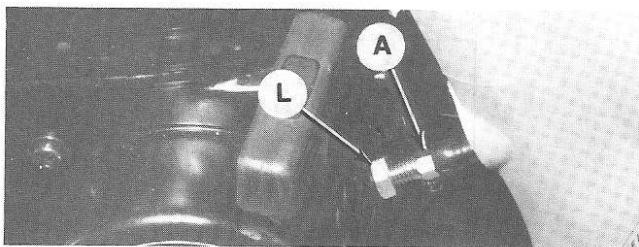
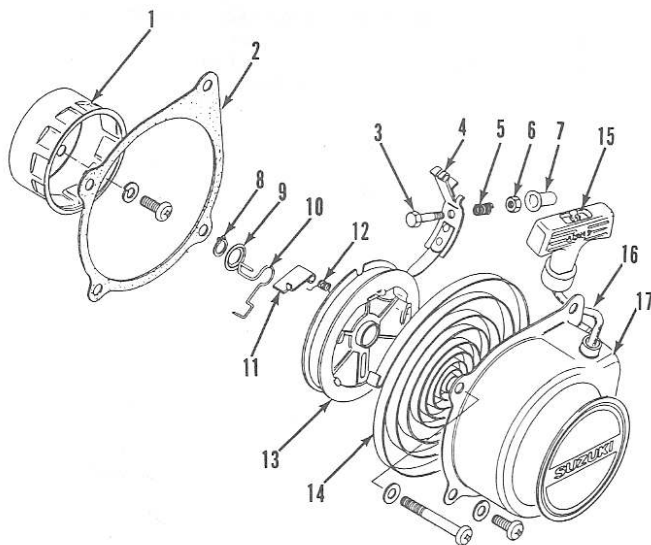
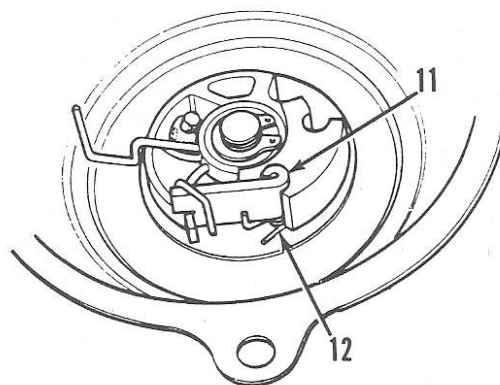

Fig. S1-8—Loosen locknut (L) and rotate adjuster (A) as outlined in text to adjust starter interlock.
Fig. S1-9—Exploded view of manual starter assembly used on both models.
Fig. S1-10—Ensure starter pawl (11) and return spring (12) are installed as shown. Parts are also shown in Fig. S1-9.
engagement until parking brake is applied. To adjust, first check and adjust brakes as outlined in BRAKES section. Loosen locknut (L—Fig. S1-8) and turn interlock adjuster (A) inward to end of travel. Actuate parking brake, then slowly pull starter handle and check for starter engagement. If starter does not engage, back interlock adjuster out $\frac{1}{2}$ turn and recheck. Continue alternating starter engagement checks and turning adjuster out in $\frac{1}{2}$ turn increments until starter operates. After initial engagement is achieved, rotate interlock adjuster (A) out an additional $1\frac{1}{2}$ turns and secure with locknut (L). Recheck adjustment.
R&R AND OVERHAUL. Refer to Fig. S1-9 for exploded view of manual starter assembly. Starter may be removed as a complete unit by first loosening locknut (L—Fig. S1-8) and rotating starter interlock adjuster (A)
inward to end of travel. Remove four retaining screws and separate starter from engine. Detach interlock cable from interlock lever (4—Fig. S1-9). Rotate cable adjuster completely out and pull cable free from starter housing.
Rewind spring (14) is wound in clockwise direction in rope pulley (13). Rope is wound on rope pulley in clockwise rotation as viewed with pulley in housing. Reassemble starter assembly by reversing disassembly procedure making certain starter pawl (11) and return spring (12) are installed as shown in Fig. S1-10. To place tension on rewind spring, pass rope through rope outlet in housing and install rope handle. Pull rope out and hold rope pulley so notch on pulley is adjacent to rope outlet. Pull a loop of rope back through outlet between notch in pulley and housing. Turn rope pulley clockwise a few revolutions to place tension on spring. Do not place more tension on rewind spring than is necessary to draw rope handle up against housing. Reinstall interlock components (3 through 7—Fig. S1-9) and attach interlock cable to lever (4). Attach starter to engine and adjust starter interlock as outlined in STARTER INTERLOCK section.